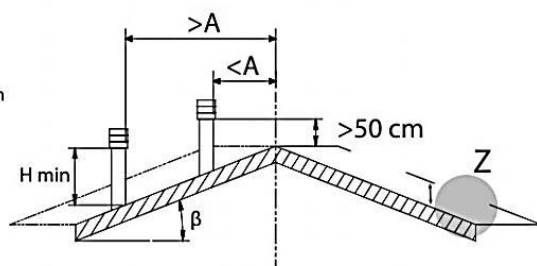

Figure 1
- installed to enable proper dispersion and dilution of combustion products outside the reflux zone (backflow) because the counter pressure occurs here. Therefore, it is necessary to adhere to limitations listed in *Figure 1*,
The chimney must be **at least 0,5 meters above the roof ridge** (see *Figure 1*). The **minimum distance between the two connections on the same chimney must be 60 cm** (*Figure 7d*).